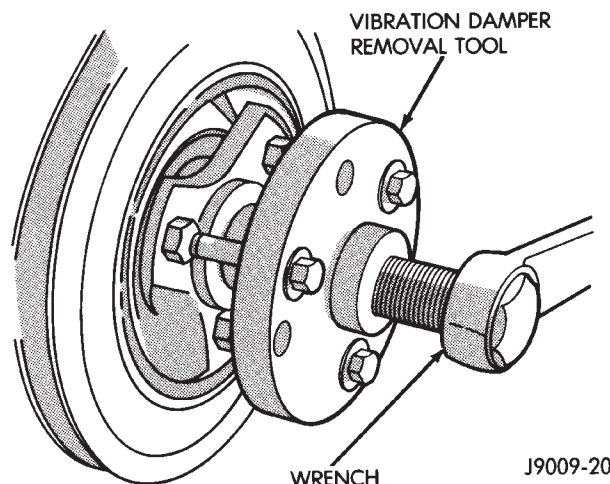

Fig. 41 Vibration Damper Removal Tool 7697
- (1) Disconnect negative cable from battery.
- (2) Remove the serpentine drive belt and fan shroud.
- (3) Remove the vibration damper retaining bolt and washer.
- (4) Use Vibration Damper Removal Tool 7697 to remove the damper from the crankshaft (Fig. 41).